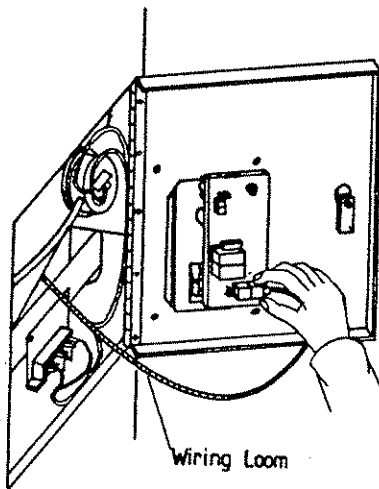

Fig. 49
3. Un-plug the controller (item no. 35) from the loom by pressing down on the joiner and removing it to right (see fig. 49).